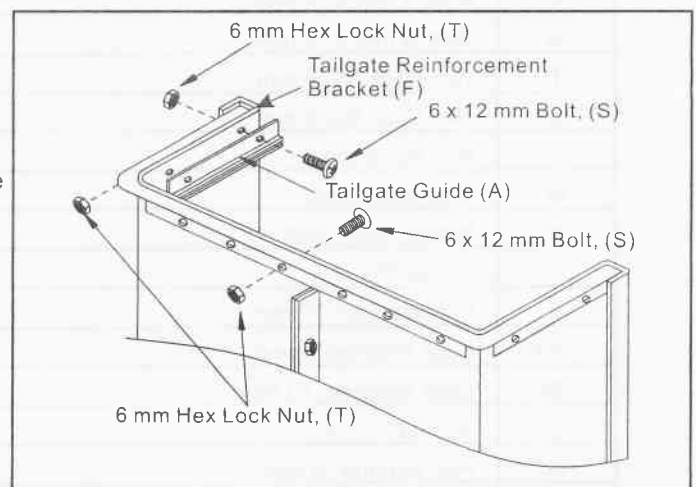

FIGURE 3
5. Position the tailgate reinforcement bracket (F) on outside of cart as shown in figure 3. Assemble to the bottom of the cart body using six 6 x 12 mm bolts (S) and 6mm hex lock nuts (T). Do not tighten. See figure 3.
6. Position the tailgate guides (A) on the inside of the cart body with guide channels to the front as shown in figure 3. Assemble using four 6 x 12 mm bolts (S) and 6 mm hex lock nuts (T). Do not tighten.